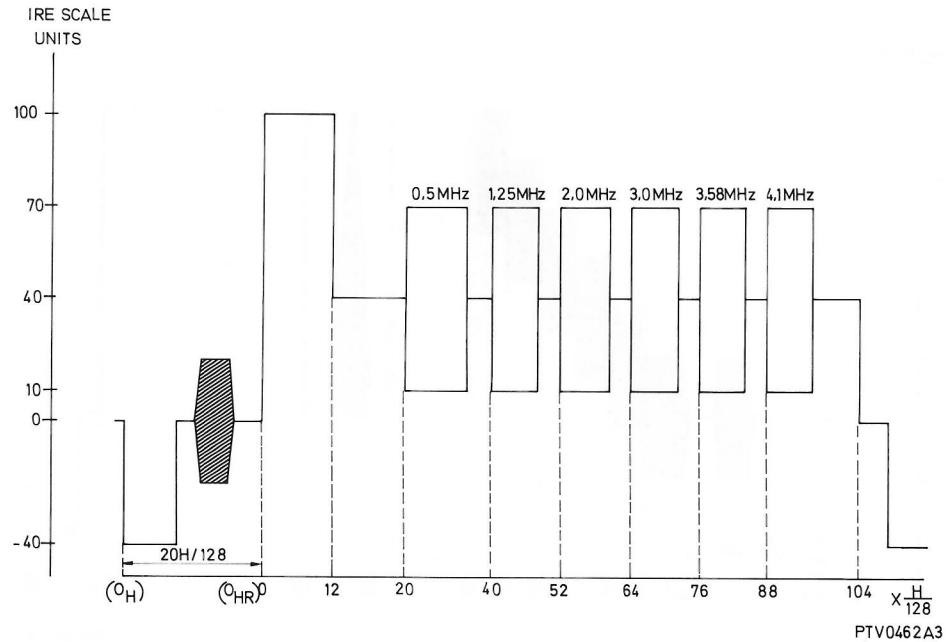

Fig. 3-9 FCC multiburst
4. (C) FCC multiburst test signal (See also fig. 3-9)